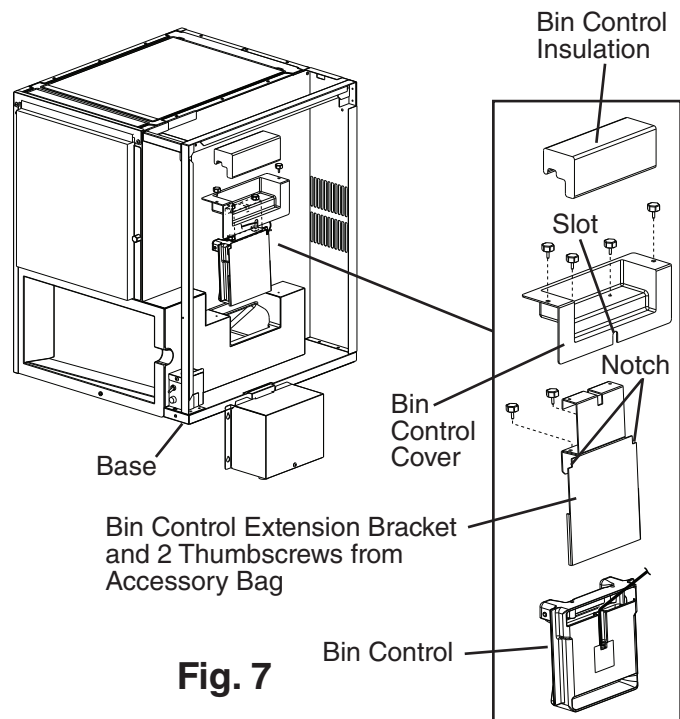

Fig. 7
- 5) Remove the bin control extension bracket and 2 thumbscrews from the accessory bag. Route the bin control cable around one of the notches on either side of the extension bracket, then secure the bin control to the bin control extension bracket using the 2 thumbscrews. See Fig. 7.